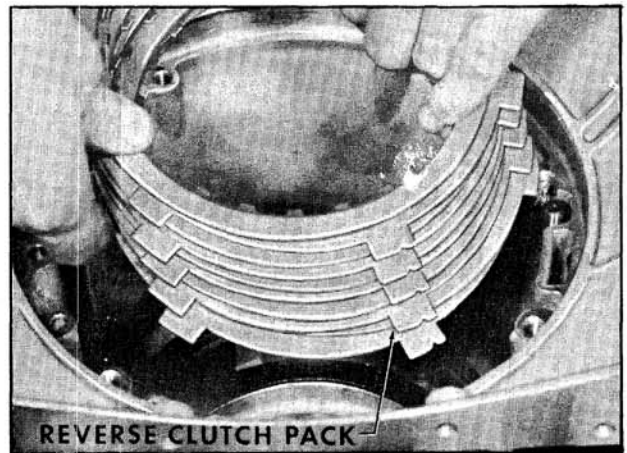

Fig. 6-380 Removing Reverse Clutch Pack
3. Remove reverse clutch pack from transmission case. (Fig. 6-380)